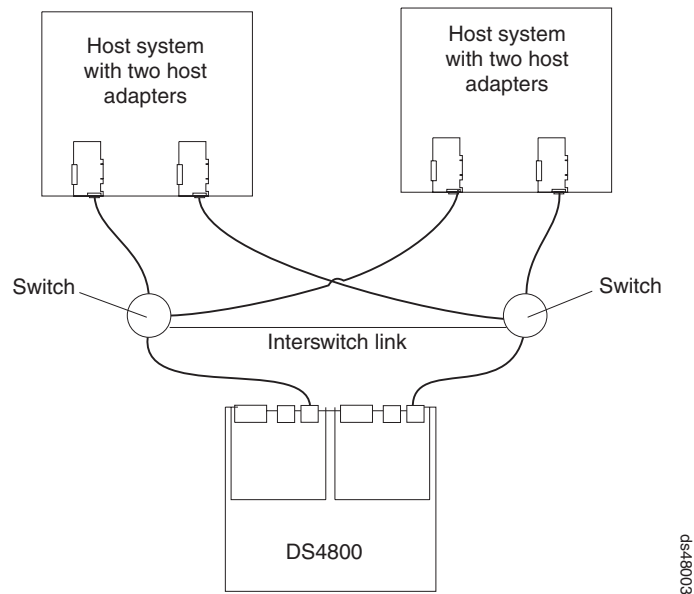

Figure 68. Example of a single SAN fabric configuration
- Single SAN fabric configuration, as shown in Figure 68 on page 97
In Figure 68 on page 97, gives an example of two host systems, with fibre channel switches connected by an interswitch link, forming a single SAN fabric configuration.